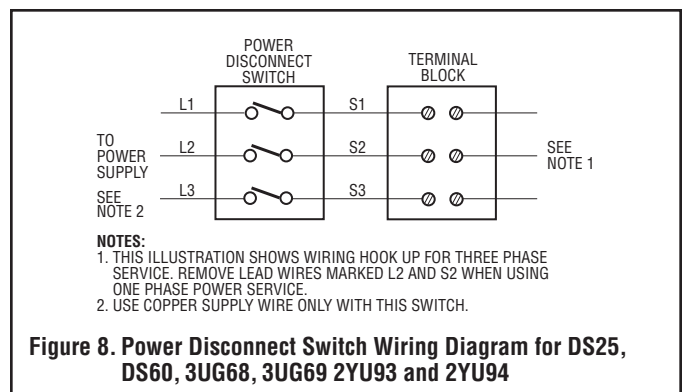

Figure 8. Power Disconnect Switch Wiring Diagram for DS25, DS60, 3UG68, 3UG69, 2YU93 and 2YU94
6. Refer to wiring diagram, Figure 8, for wiring procedure.